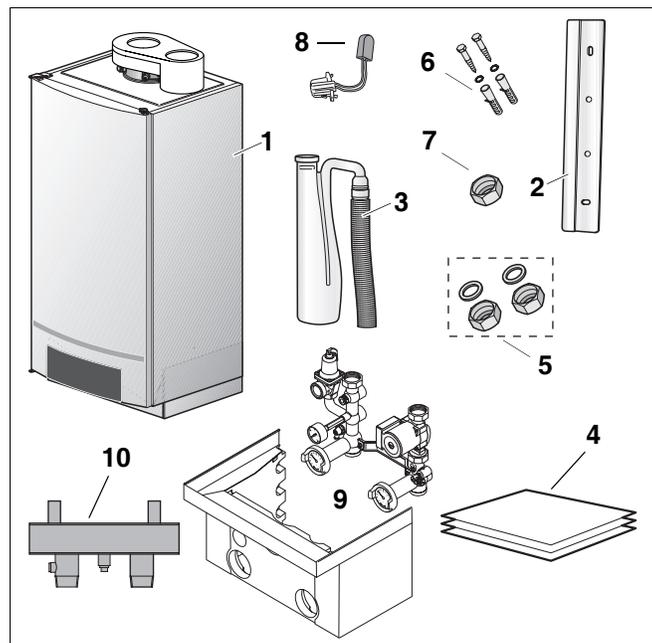

Fig. 4 Items supplied with unit
- Check that all items are included in the delivery (fig. 4).